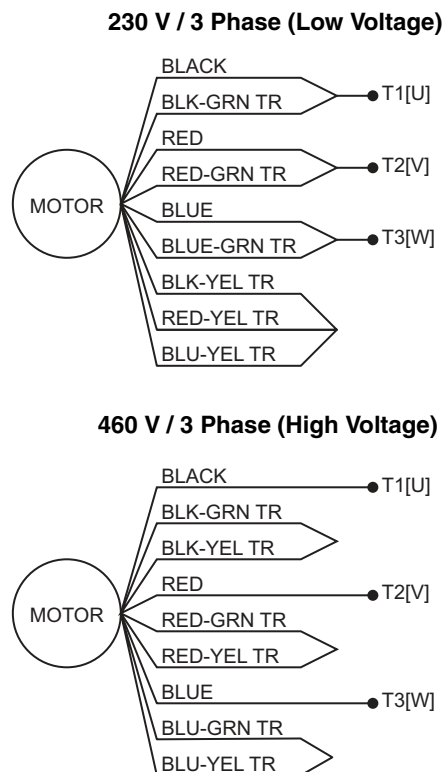

FIG. 3 Electrical Connections for 3 Phase Pump
1. Connect the conduit to the control box (B) with a conduit fitting.
3. Connect wires (user supplied) rated per local electrical code. See FIG. 3 for wiring diagram.